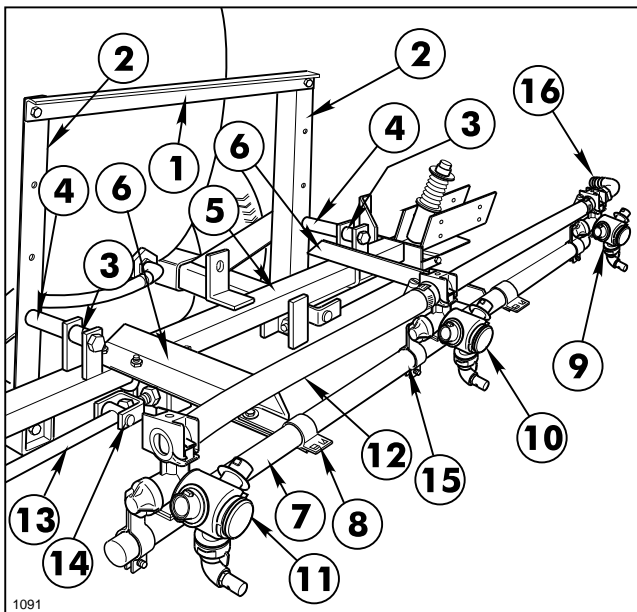

FIG. 11
4. Position the Spacer Tubes between the Boom Mount uprights and the lugs on the Main Frame Tube. Use two 1/2" x 4" hex hd. cap screws and lock nuts to secure the Main Frame Tube to the uprights. See FIG. 11.
6. Position the two (2) Center Boom angles on the Main Frame and secure them to the Main Frame tube with two (2) square U-bolts, four (4) flat washers and hex nuts. See FIG. 11.
7. Center and attach the Center Boom Pipe to the two Center Boom Angles with two (2) Boom Clamps, 3/8" x 1" cap screws, flat washers and lock nuts.
8. Loosely attach the Double Barb Turret Body with the Turret Body Clamp in the approximate center of the Center Boom Pipe. For the most uniform spray coverage, position all Nozzles level as shown in FIG. 11.
10. Place two Hose Clamps on two 3/4" x 19" Jumper Hoses and connect the two "end" Turret Bodies to the Double Barb Turret Body. Space nozzles 20" apart and tighten fasteners securely. Apply thread sealer and install the 90° 3/4" Hose Barb on the Threaded Turret Body. See FIG. 11.
11. Attach the two Strut Assemblies to the two Adjustable Clevis Assemblies found on each side of the Main Frame tube with two (2) 1/2" x 2" clevis pins and two (2) 1/8" x 1" cotter pins. See FIG. 11.
13. Attach the Boom Support Assembly to the Pivot Assembly, using a 5/16" x 1-1/2" cap screw and lock nut. See FIG. 11 & 12.
16. Adjust the Booms to a level position by adjusting the jam nuts on the adjustable clevis assemblies (See FIG. 11) to the desired position, then tighten end nuts against Main Frame plate.